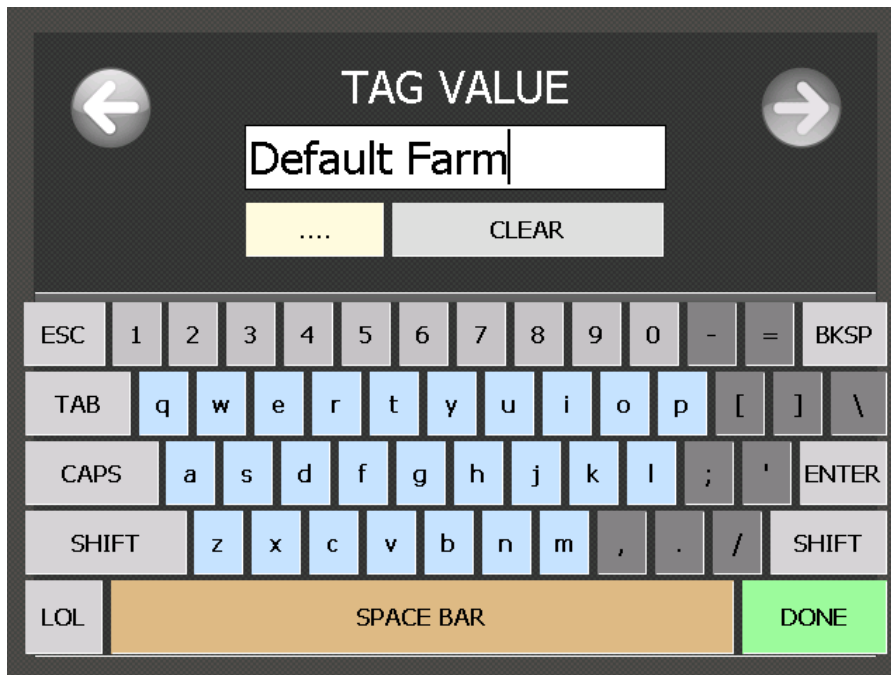

Figure 5.5.2. Editing a user tag.
- 4) Tap and enter the name and value for the new user tag. See Figure 5.5.2.